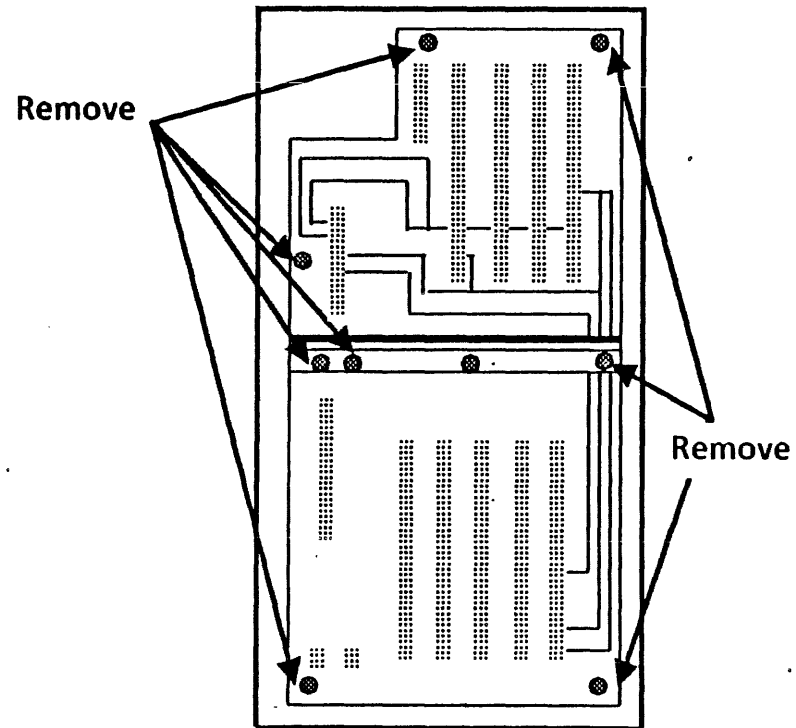

Figure 4-6 Backplane
- a. Remove the eight screws as shown in Figure 4-6 while leaving the screw in the center.